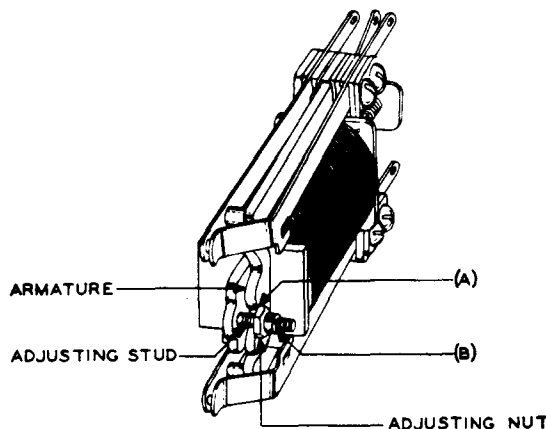

Fig. 7 - AB-type Relay
- 2.09 Adjusting Stud Clearance: Fig. 7(A) - The armature shall not rub against the adjusting stud.
- 2.10 Adjusting Nut Tightness: Fig. 7(B) - The adjusting nut shall be sufficiently tight on the stud to prevent its being turned with the thumb and forefinger. This requirement is considered as having been met if the nut does not turn under a turning pressure of one inch-ounce. In case of doubt this may be checked by the use of the No. 349 or No. 474A wrench and No. 70D gauge. With the wrench on the nut the gauge shall be applied to the wrench at the top or bottom side of the hole in the free end and the nut shall not turn with a pressure of 22 grams if the No. 349 wrench is used or a pressure of 13 grams if the No. 474A wrench is used.